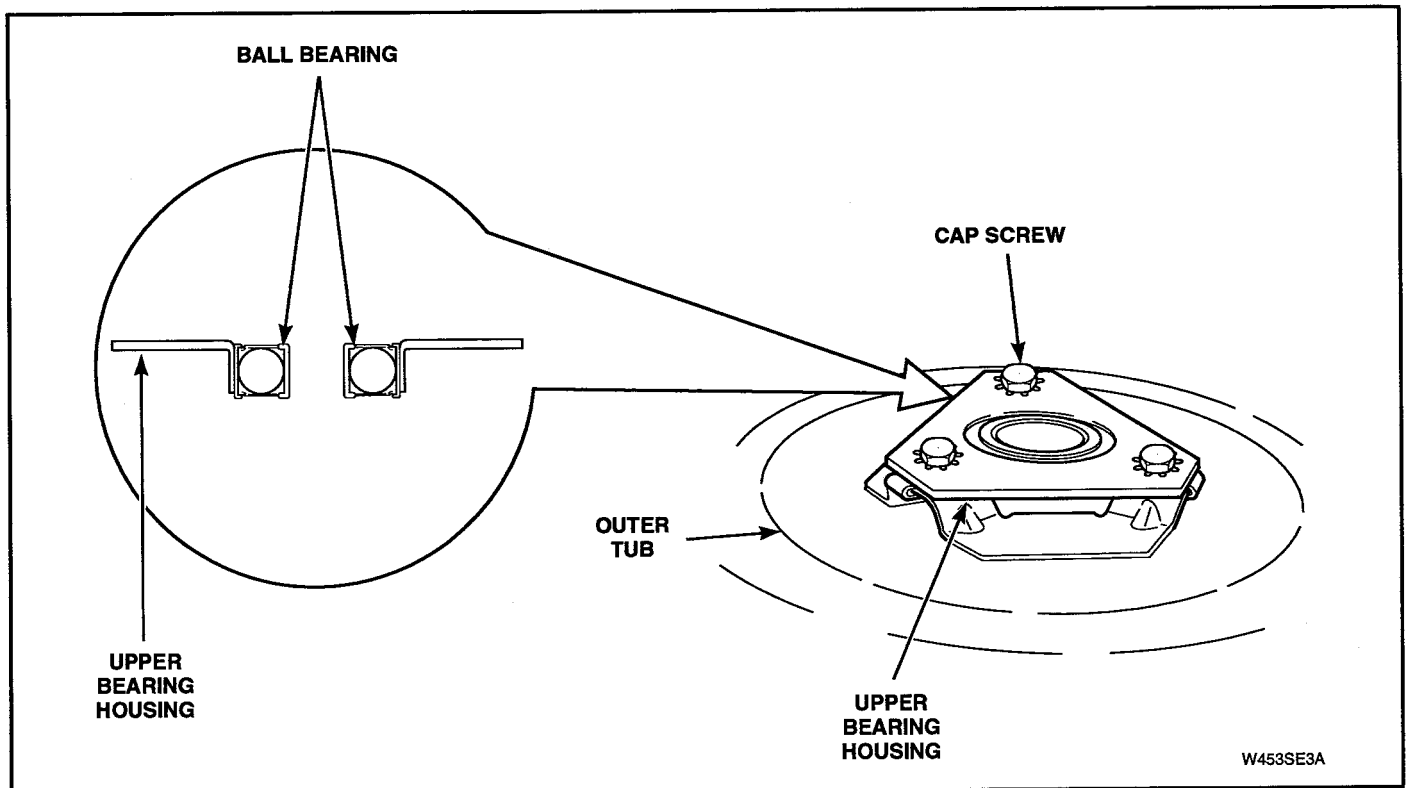

Figure 5-39
- Remove three screws holding upper bearing and housing to bottom of outer tub. See Figure 5-39.